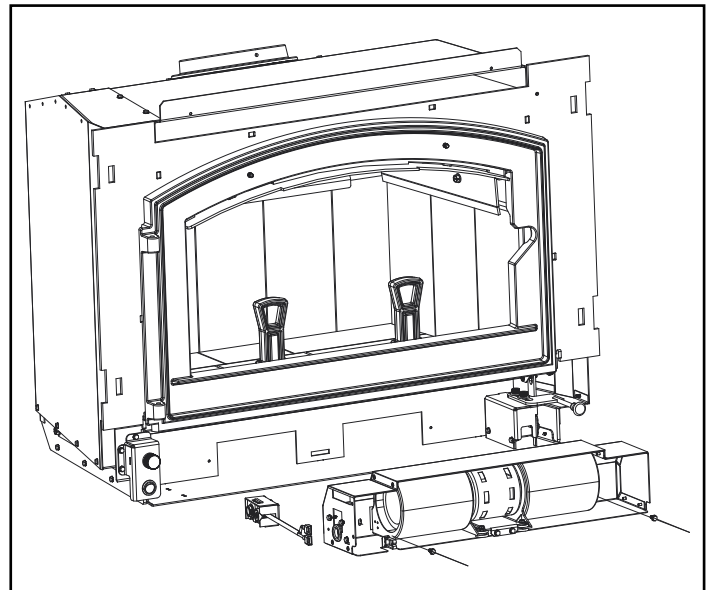

Figure 5.5
5. Using a Phillips head screw driver, remove the 2 screws from the snap disc and lift the snap disc off of the mounting bracket (**Figure 5.5**).